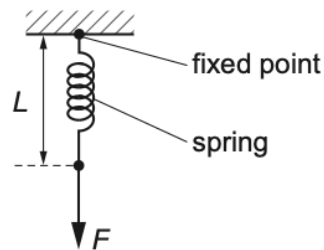

Fig. 4.1
- 15 A spring is suspended from a fixed point at one end and a vertical force is applied to the other end, as shown in Fig. 4.1.